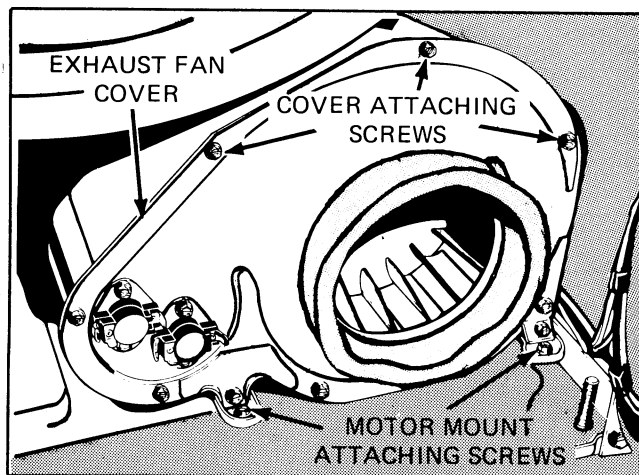

Figure 42E
8. Remove two motor mount screws that secure bracket to base and slide complete assembly out at the front of dryer, see *Figure 42E*.
1. Remove the nine hex screws around the periphery of the exhaust fan cover, *Figure 42E*.